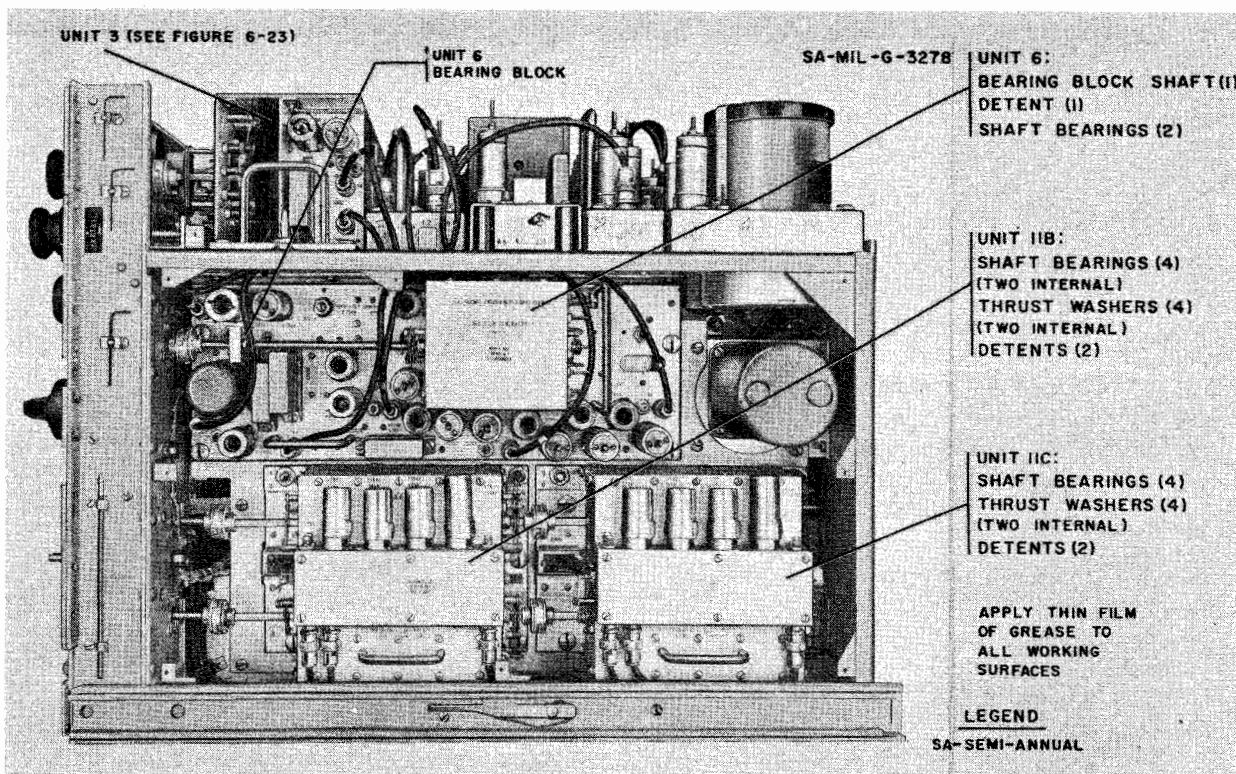

Figure 6-22. RFO, Right Side, Lubrication
(e) RIGHT SIDE.—In figure 6-22 the right side of the RFO is shown, with the lubrication points on unit 6, unit 11B, and unit 11C pointed out. Reference to unit 3 is included in this illustration.
- (i) Figure 6-22